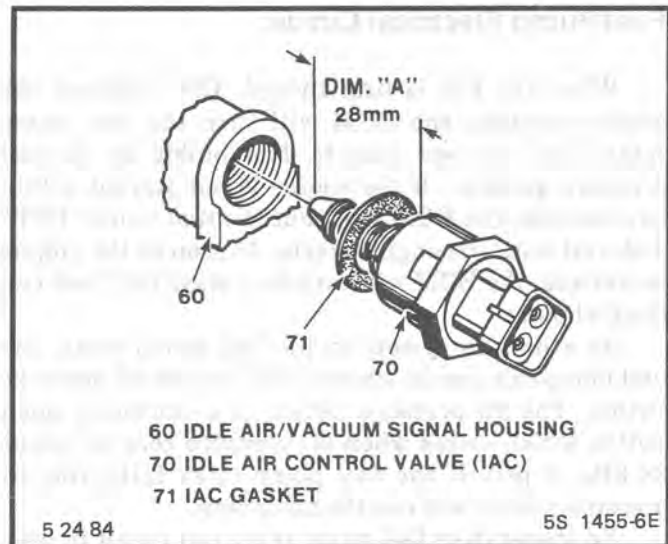

Figure C2-9 Idle Air Control Valve Assembly
- Distance from gasket mounting surface of IAC valve assembly (70) to tip of pintle. (Dimension "A" in Figure C2-9).